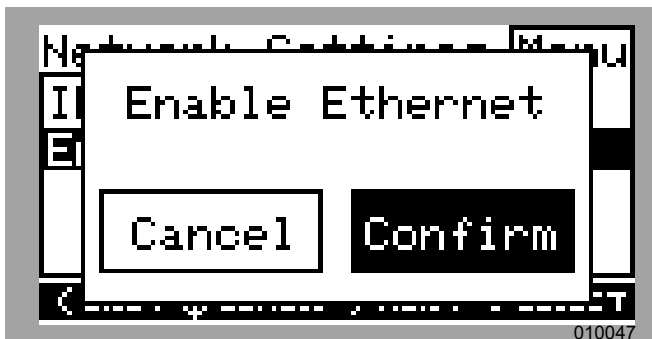

Figure 6-26. Ethernet Configuration (3 of 4)
- See Figure 6-26. Press the right arrow to highlight Confirm then press the center button.